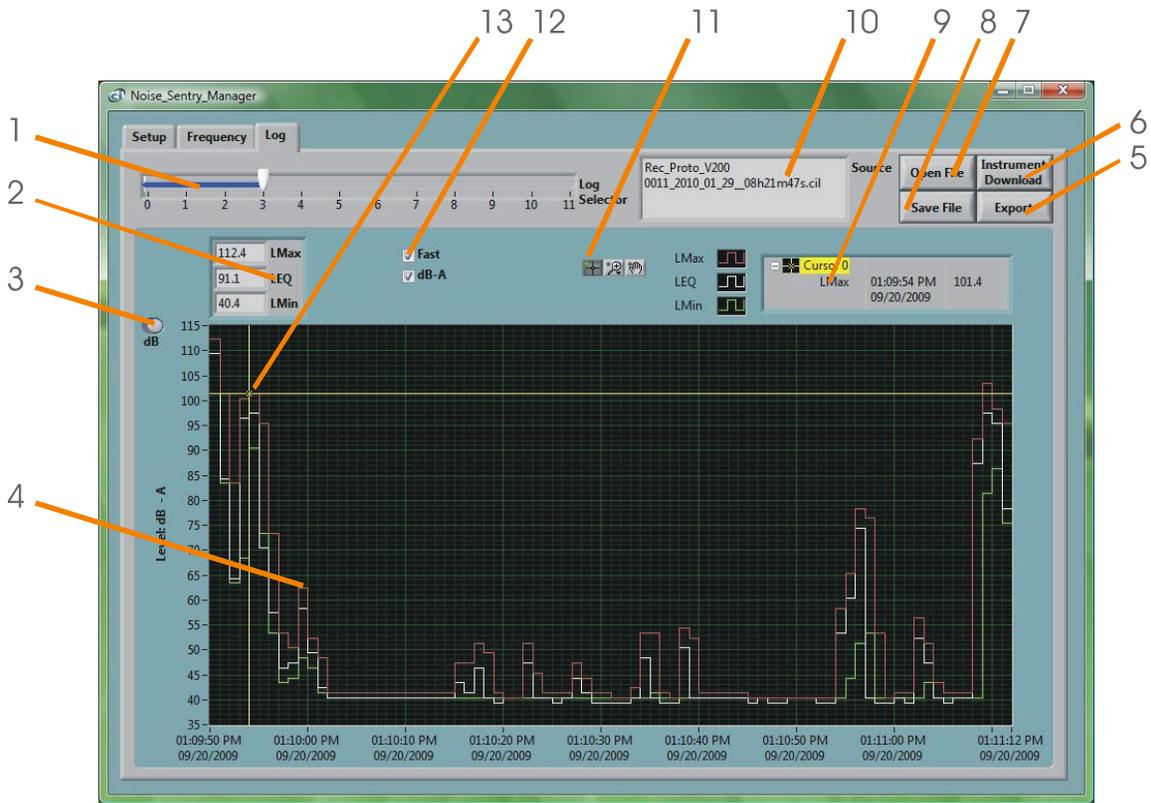

Figure 4: Noise_Sentry_Manager Log tab
- **The Log Tab:** Is used to read, display and export the data from the *Noise Sentry* (see figure 4).
The log tab is seen in figure 4. It is used to retrieve the recorded information from the *Noise Sentry* and to display the recorded logs in graphical form.